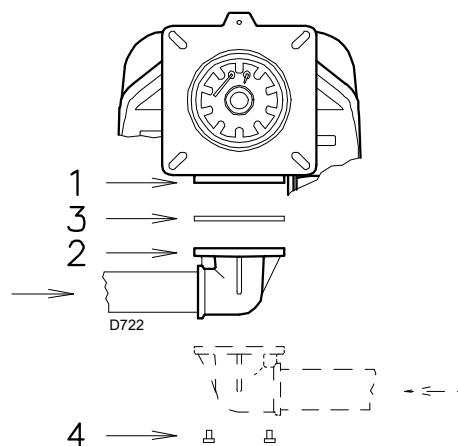

Fig. 14
- The gas train must be connected to the gas attachment 1)(Fig. 14) with the flange 2), the gasket 3) and the screws 4) supplied with the burner.